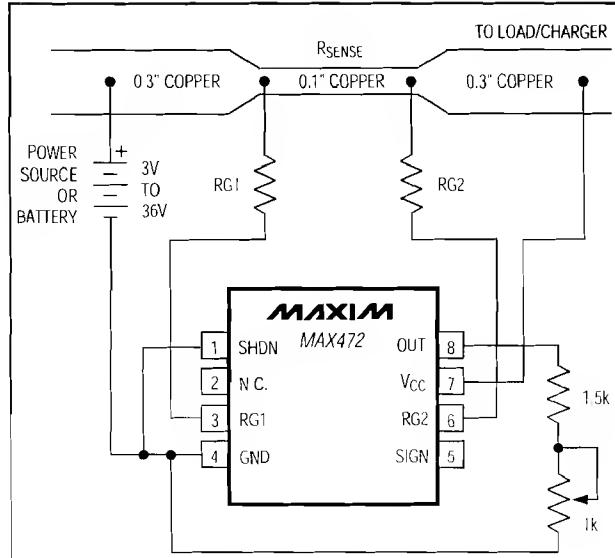

Figure 6. MAX472 Connections Showing Use of PC Board Trace
- Cost:** If the cost of RSENSE becomes an issue, you may want to use an alternative solution, as shown in Figure 6. This solution uses the PC board traces to create a sense resistor. Because of the inaccuracies of the copper "resistor," you will need to adjust the full-scale current value with a potentiometer. Also, the resistance temperature coefficient of copper is fairly high (approximately 0.4%/°C), so systems that experience a wide temperature variance should take this into account.
In Figure 6, assume the load current to be measured is 10A and that you have determined a 0.3 inch wide, 2 ounce copper to be appropriate. The resistivity of 0.1 inch wide, 2 ounce copper is  $30\text{m}\Omega/\text{ft}$  (see Note 4). For 10A you may want  $R_{SENSE} = 5\text{m}\Omega$  for a 50mV drop at full scale. This resistor will require about 2 inches of 0.1 inch wide copper trace.